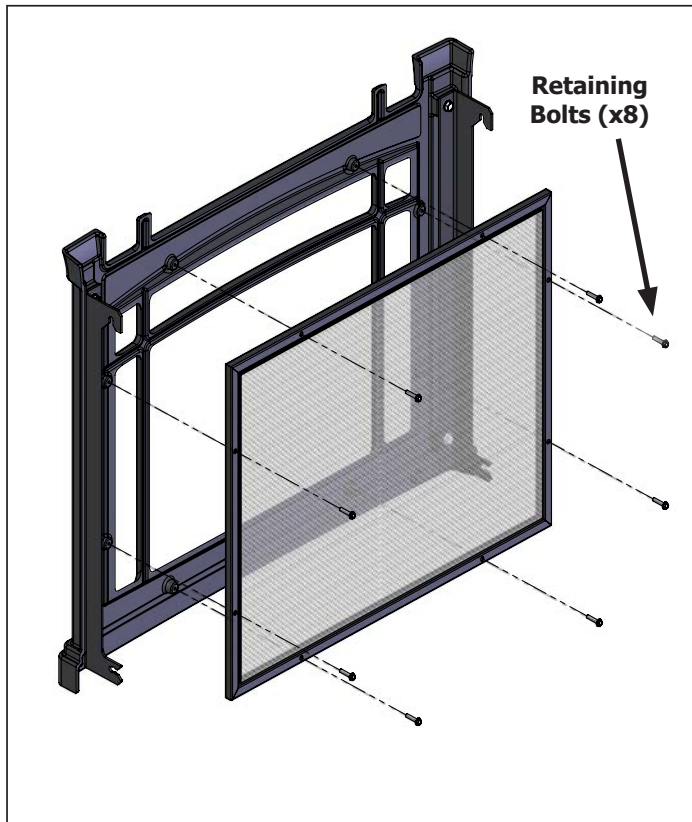

Figure 63. Safety Screen Removal - Front
Step 4: If replacing the side screen skip to step 5. If replacing the front screen remove the eight (8) retaining bolts (Figure 63) using a 1/4" socket and remove the damaged screen while noting the orientation. Install the new screen (50-3715) by simply re-installing the retaining bolts. Re-install the cast door and top to finish.